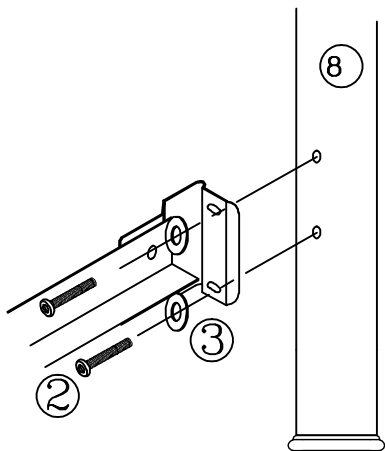

FIGURE 3
- Position foot board panel (8) and align holes in the post with holes in the frame bracket. (See figure 3)
- Place washer (3) over on each screw (2). Insert through bracket and into foot board post (8). Hand-tighten DO NOT TIGHTEN screws all the way figure 3)
- Tighten all screws securely using the Allen wrench (5).